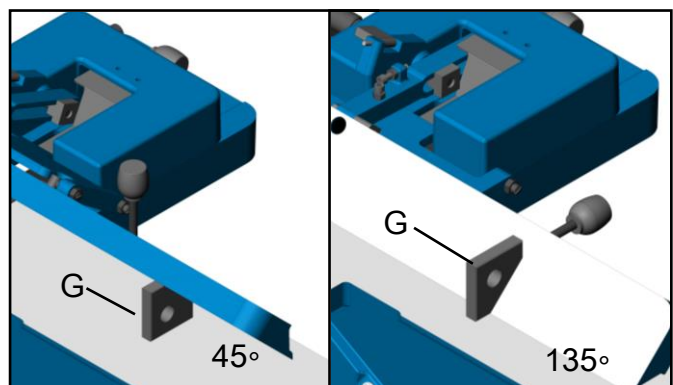

Fig. 12
**Note:** The 45° fence backward stop is controlled by the stop bolt (H) and 135° fence backward stop is controlled by the stop bolt (I).
1. Loosen the lock knob (D). Move the stop plate (B) out of the way and position the fence at the 45° or 135° angles. Make sure the fence sits against on the correct stop bolt.
2. Tighten the lock knob (D)
3. Place an angle measuring device on the table Fig. 12 and against the fence to confirm 45° & 135° setting.
4. To adjust, loosen the lock nut (J) or (K) , turn the stop bolt (H) or (I) until a 45° or 135° angle is obtained.
5. Tighten the lock nut (J) or (K).